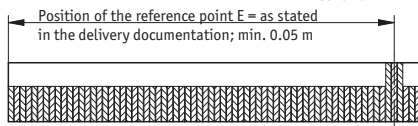

Fig. 6: Definition of the counting direction with magnetic strip and assemblage sensor/magnetic ring, gap measure, tolerances
- Provide for a relief groove in the solid shaft (see fig. 6).
- **Observe the correct alignment with regard to the counting direction** (fig. 6 and 7). This does not apply if the counting direction can be reversed in the electronic interpretation (e. g. in SIKO's magnetic-strip displays).